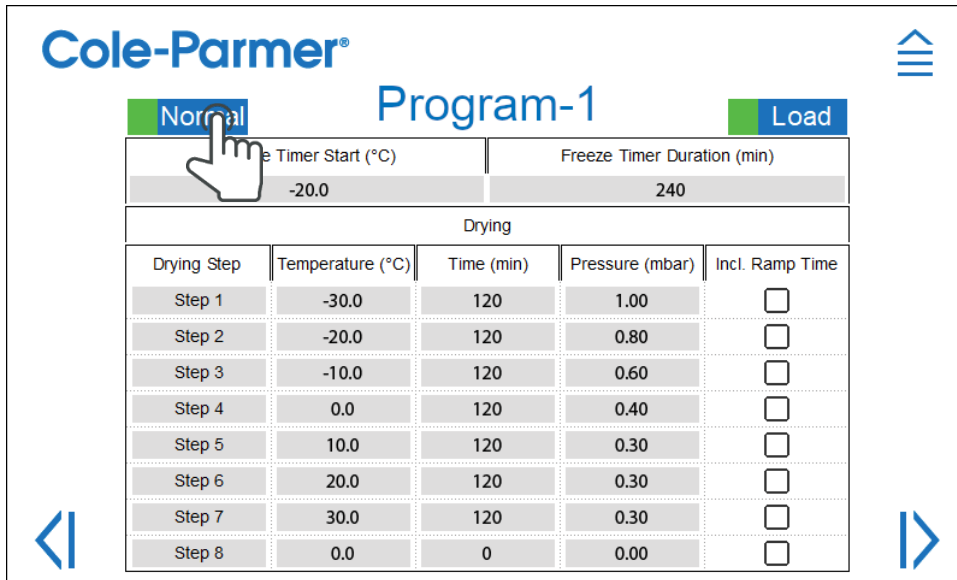

Figure 40
The FD 600 includes 3 modes for programs. Normal, Vacuum Oven (VO), and Candy. Each mode affects how the program cycle operates. Modes can be selected by tapping on the button on the top-left on the program editor screen (Figure 40), and will cycle to VO, Candy, and back to Normal. More details are in the following chapters.